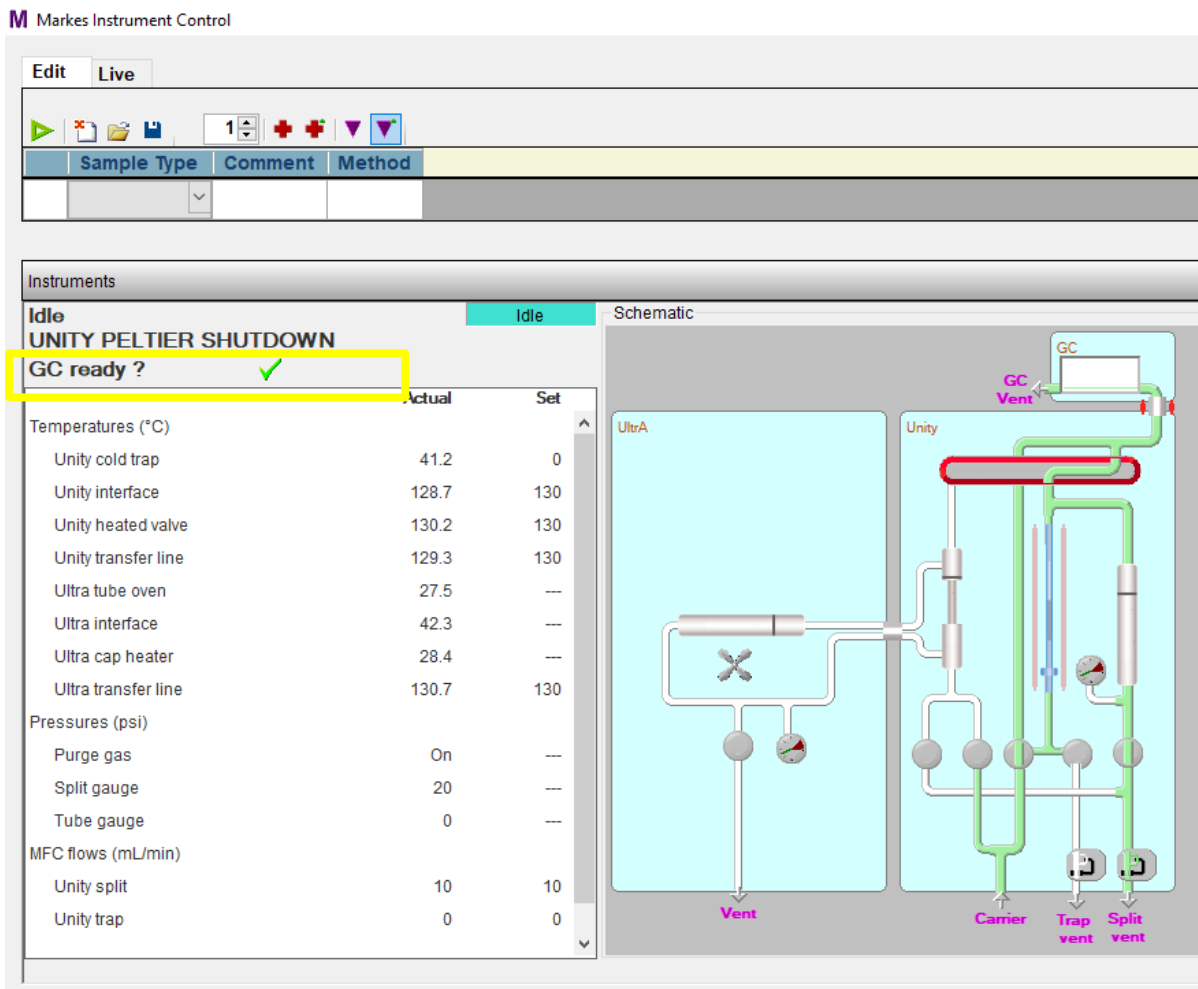

Figure 16. Sequence Edit View screen. The “GC ready?” is ticked as the GC oven has already been set.
4.2.4 The schematic to the bottom left corner of the screen (Figure 8) indicates the stage at which the GC oven is during each run. The GC is required to be at the “Ready to inject” stage in order to be recognized as “GC ready” by the Markes TD software (see Figure 16), and to start the run.